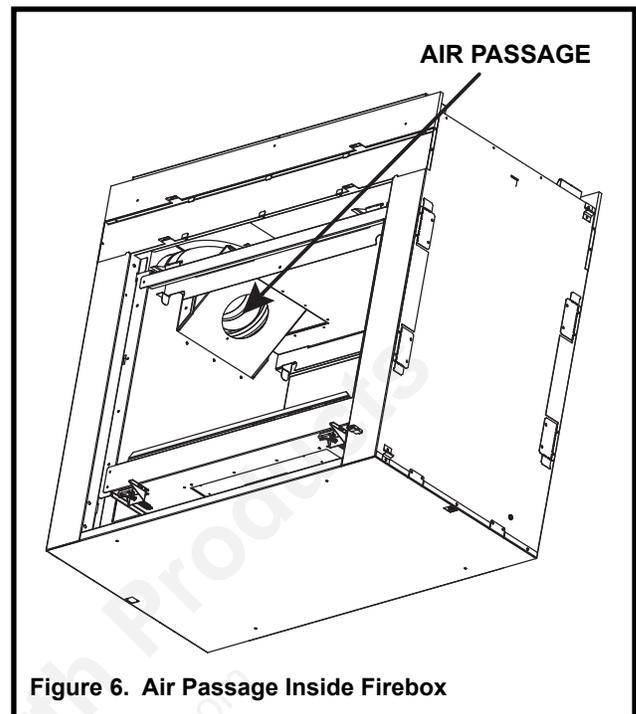

Figure 6. Air Passage Inside Firebox
1. Locate the center vent hole of the air passage on the inside firebox chamber as shown in Figure 6.